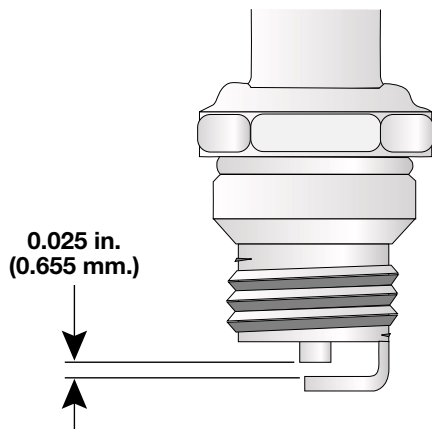

Fig. 44
3. Replace cracked, fouled or dirty spark plug. Set the air gap at 0.025 in. (0.655 mm.) using a feeler gauge (Fig. 44).